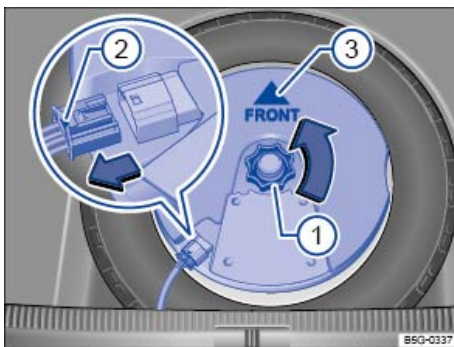

Fig. 182 Under the luggage compartment floor: Subwoofer (if equipped).
2. Unscrew the handwheel ⇒ fig. 182 \(1\) in a counterclockwise direction (arrow).